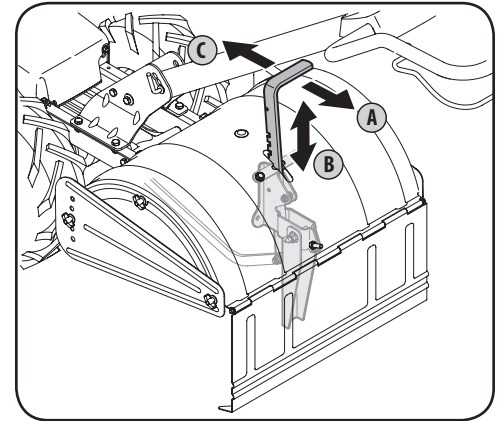

Figure 4-2
Pull back on the depth adjustment bracket (A) and push down (B) until the bracket reaches the highest notch. See Figure 4-2. Then release the bracket (C).
To adjust the depth stake, pull back on the depth adjustment bracket (A) and push up or down (B) until the bracket reaches the desired position, see Figure 4-2, then release the bracket (C).